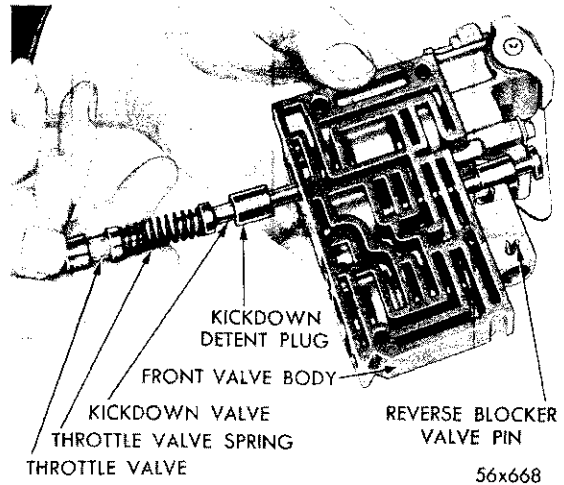

Fig. 142—Removal and Installation of Throttle Valve, Spring, Kickdown Valve and Detent Plug
Remove throttle valve, spring kickdown valve, and detent plug, as shown in Figure 142. It is unnecessary to remove detent plug retaining bolt and lockwasher. Remove cotter pin from valve body in outer end of reverse blocker valve. Remove reverse blocker valve plug (N), blocker valve (O), and spring (P). Normally it isn't necessary to remove the throttle valve lever shaft (R) manual valve lever assembly (S) or manual valve (V). If condition warrants, however, (such as damage), proceed as follows: